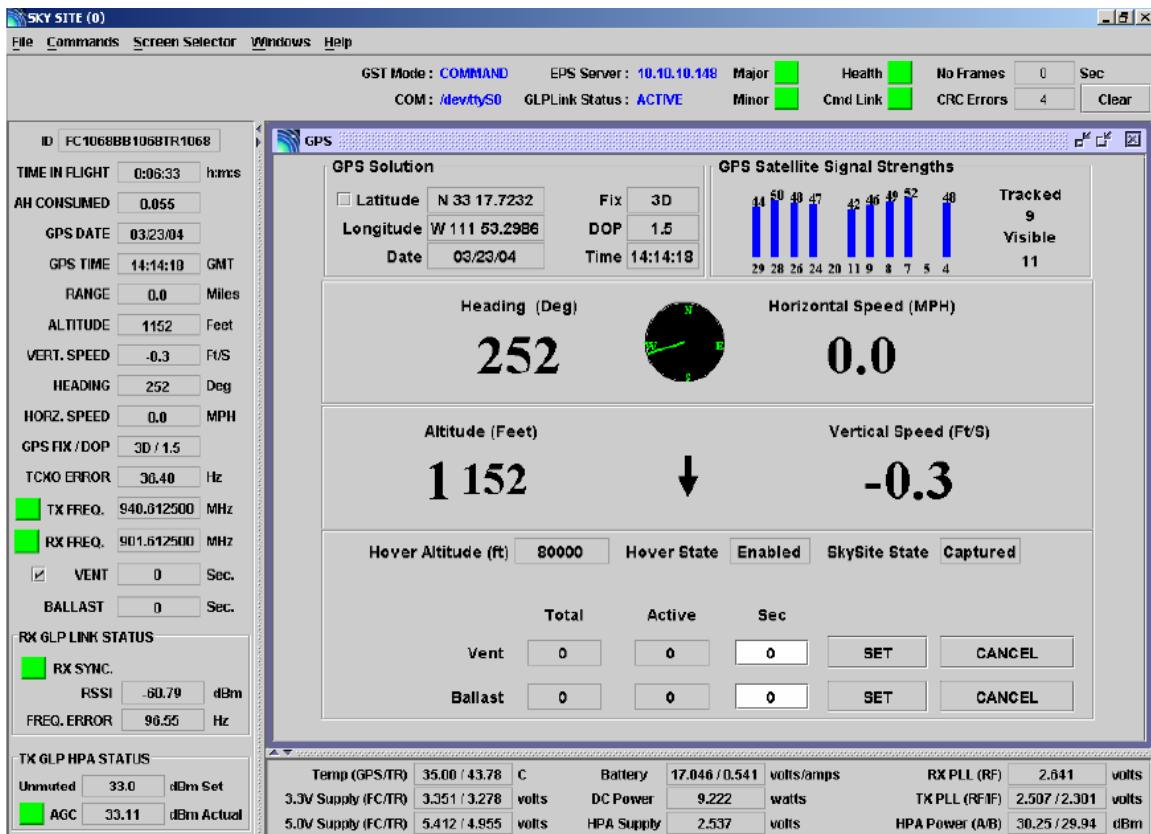

Figure 2.2 – SKS Client Screen
- When the balloon begins to lift the fill mechanism, attach weight as shown in Figure 2.2